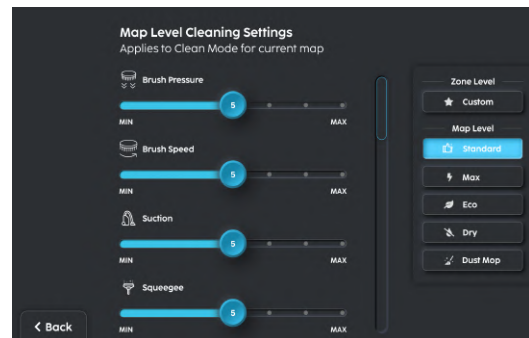

FIGURE 6-7
2. Before confirming the zone, you can adjust the cleaning settings (**Fig. 6-7**).